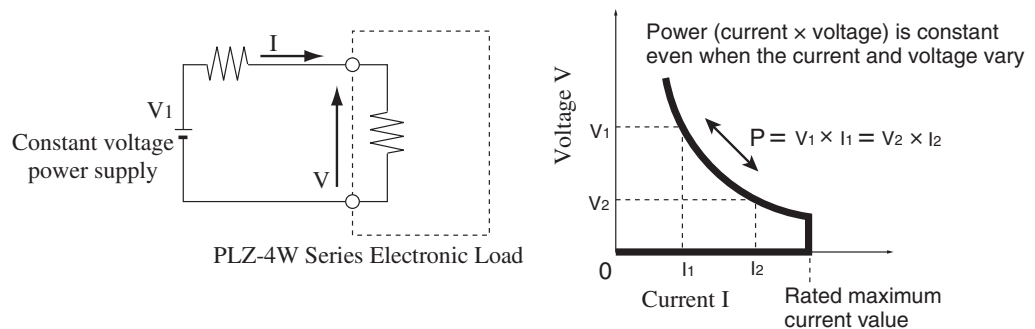

Fig. A-7 Equivalent circuit of the CP mode and operation
When the PLZ-4W is used in CP mode, the PLZ-4W operates as a constant power load as shown in Fig. A-7. When the voltage (V_1) of the constant-voltage power supply increases the input current (I) decreases so that the power consumed by the PLZ-4W $P = V \times I$ is kept constant. In Fig. A-7, $P = V_2 \times I_2 = V_3 \times I_3$.
We will consider the case when checking the load characteristics of the constant-voltage power supply of Fig. A-7 using CP mode.